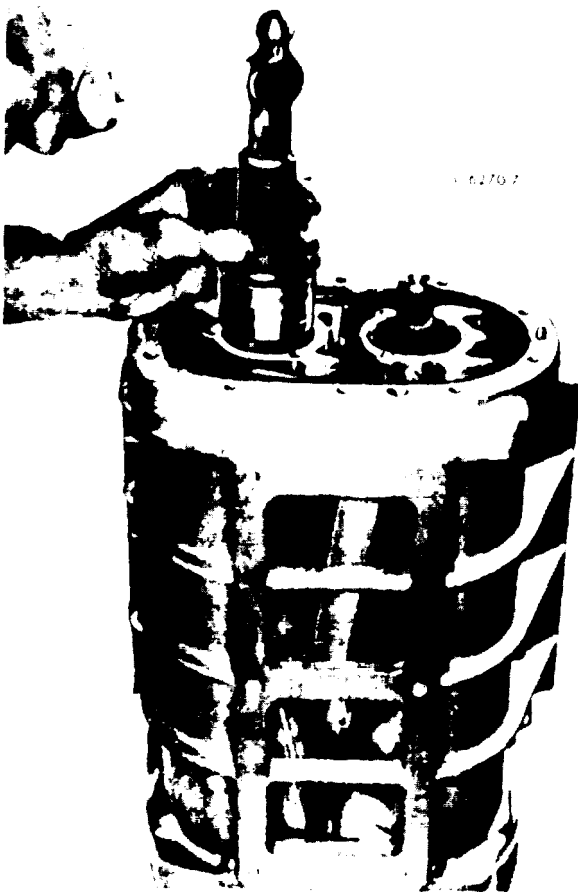

Figure 11D-18. Installing Ball Bearings on Rotor Shaft
6. Make a preliminary check of the rotor-to-end plate and rotor-to-housing clearances at this time with a feeler gauge as shown in Figure 11D-23 on page 11D-16. Refer to Figure 11D-21 on page 11D-15 for minimum blower clearances.
- B. Rotate the rotors to bring the omitted serrations on the shafts in alignment and facing the top of the blower housing (see Figure 11D-22 on page 11D-16).